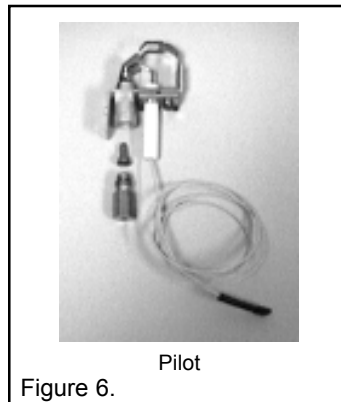

Figure 6.
8. Remove the pilot orifice and clean it; see Figure 6.